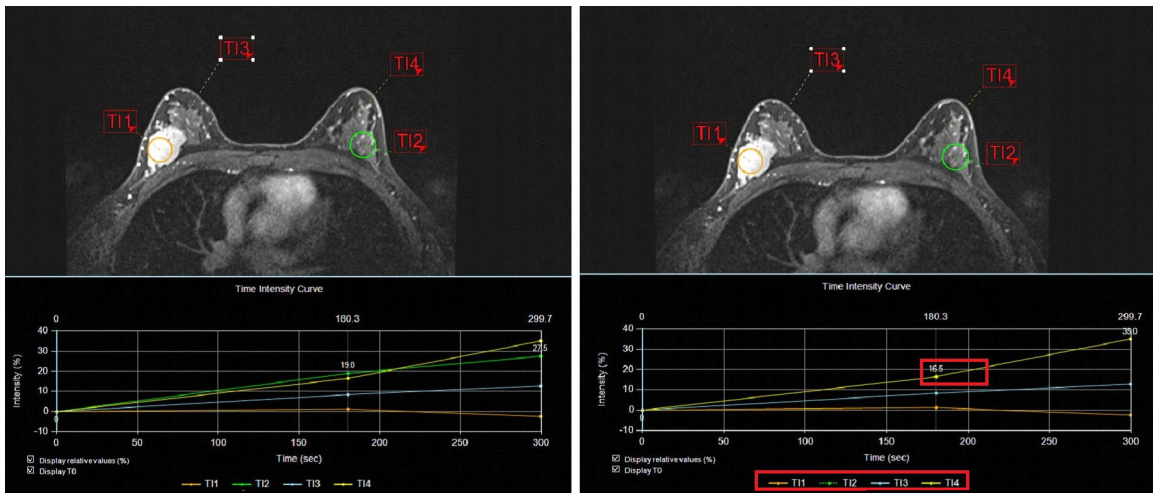

Figure 21-8 Modifying the Time Intensity Curve Graph
- Clicking on a line that was previously hidden from view on the Time Intensity Curve, makes it viewable again. (Figure 21-8)